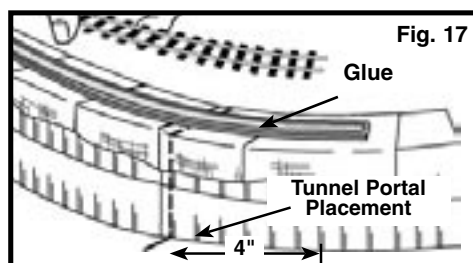

Fig. 17
- Allowing approximately 3" of track to extend beyond Tunnel Portal placement markings (Fig. 17), remove all track outside of tunnel area.
- Unpin and remove track pieces inside tunnel area one at a time. Spread an even layer of Foam Tack Glue on top of Track-Bed (Fig. 17).